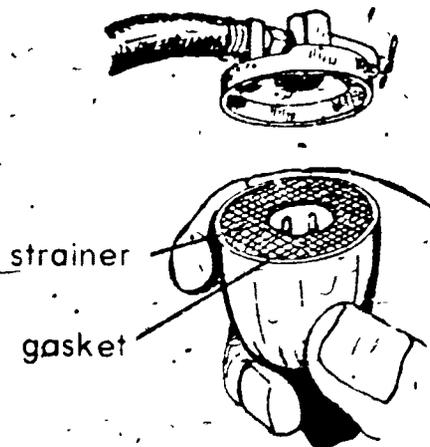

FIGURE 3
- J. Install gasket, strainer, and sediment bowl. (Figure 3)